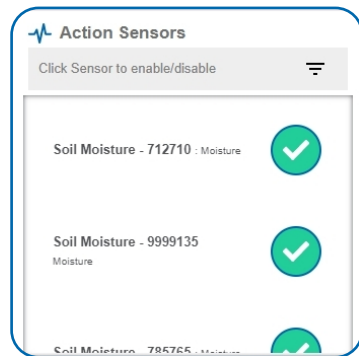

Figure 33
- By default, the sensor(s) will not be assigned to the action conditions you've just set. To assign a sensor, find the device(s) you want to designate for this action and select. Selected sensor boxes will turn green when activated. Choose the sensor box again to unassign the sensor from the action. See Figure 33.